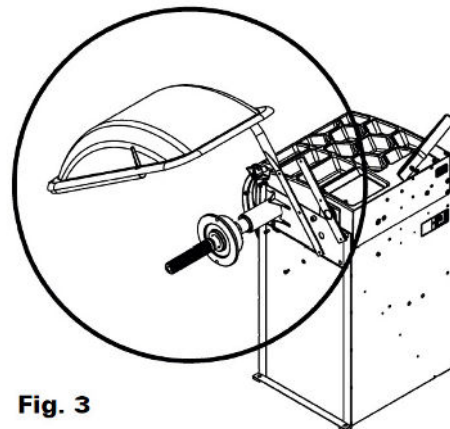

Fig. 3
6. Align the Hood bracket with the balancer arm and secure with three screws. Fig. 3 & 4